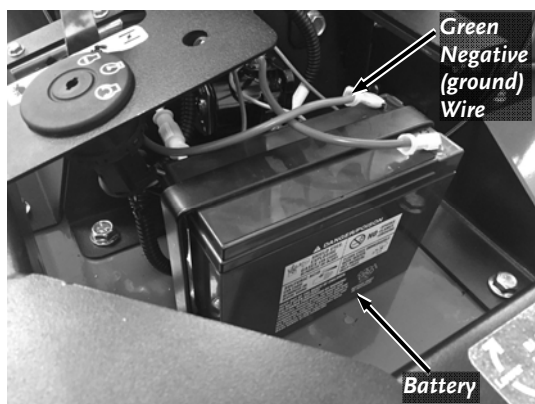

Figure 9
1. Push the negative Wire Connector fully onto the negative terminal of the Battery (**Figure 9**).